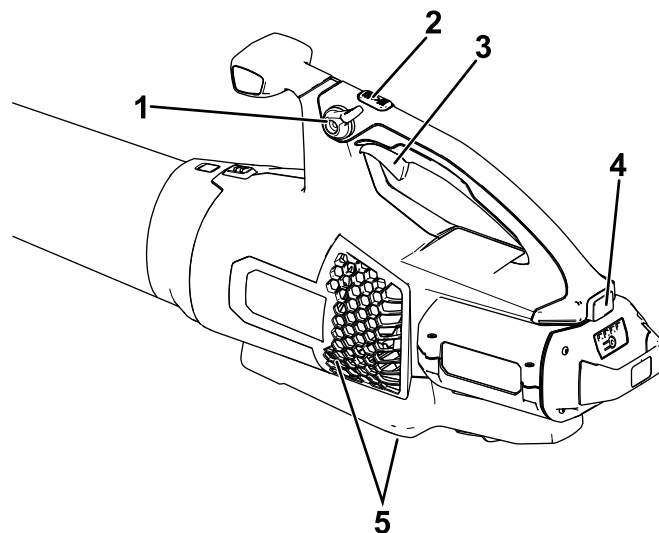

Figure 3
4. To start the blower, squeeze the variable-speed trigger (Figure 3).
**Note:** Engage the speed lock to keep the machine on without pressing the variable-speed trigger (Figure 3).
To achieve maximum performance (air speed), fully depress the variable-speed trigger, then press and hold the turbo boost button for the desired amount of time (Figure 3).
To adjust the air speed as you blow, use the variable-speed trigger (Figure 3).
To maintain the current air speed, engage the speed lock (Figure 3).
To shut off the blower, disengage the speed lock (if in use) and release the variable-speed trigger (Figure 3).